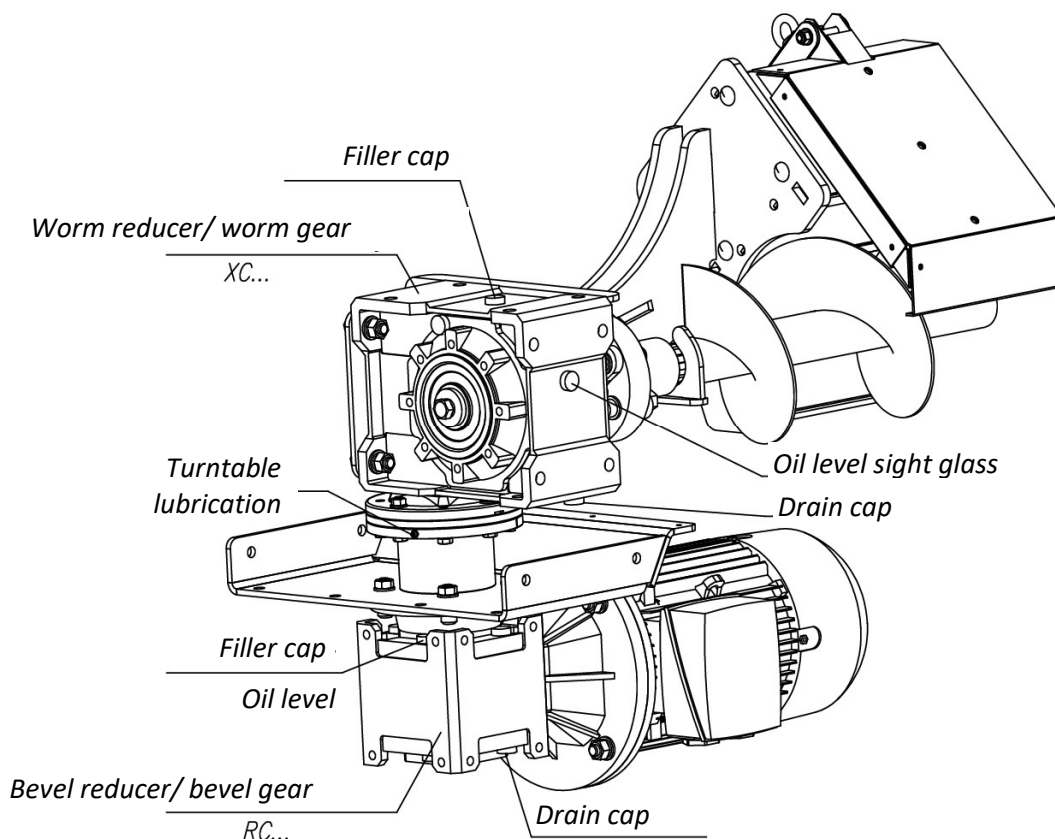

Figure 18. The conveyor bevel and worm gears (gearboxes) - points for inspecting, refilling and replacement of oil.
5. In the conveyor, the drive is provided by the electric motor installed under the floor, which drives the bevel gear (of the RC type, installed under the silo floor) and the worm gear (of the XC type); both gears are manufactured by TRAMEC S.R.L. (Figure 18).
- conveyor turntable (Figure 18). Two greasing points.